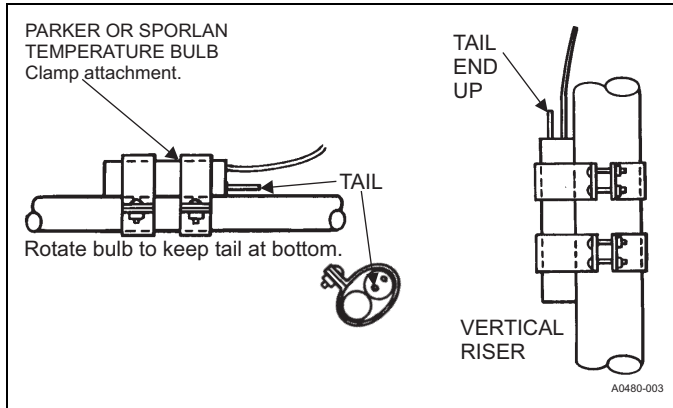
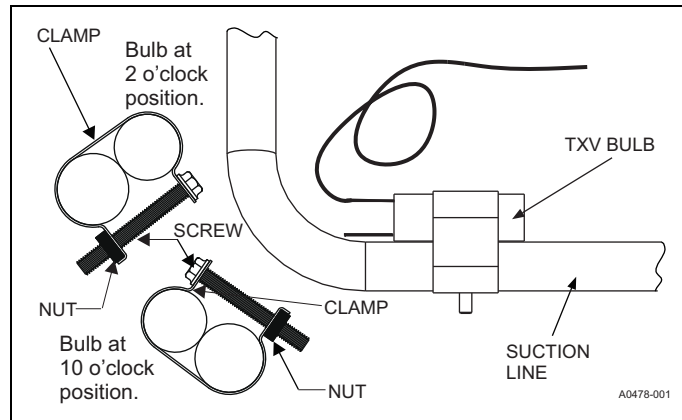

FIGURE 2: Temperature Bulb on Line Smaller than 7/8"
FIGURE 3: Temperature Bulb on 7/8" Line
8. Install the TXV bulb to the vapor line near the equalizer line, using the bulb clamp(s) furnished with the TXV assembly kit. Ensure the bulb is making maximum contact. See Figures 2, 3, and 4 for clamp assembly of the 1TVM valve temperature bulb.
- a. Install the bulb on the suction line near the equalizer line with the bulb horizontal to the suction line. On a suction line under 7/8" Outside Diameter (O.D.), install the bulb on top of the line as shown in Figure 2. On a suction line 7/8" O.D. or larger, install the bulb at about the 2 or 10 o'clock position as shown in Figures 3 or 4.
- b. If bulb installation is made on a vertical run, ensure that the bulb is a minimum of 8 inches (23.3 cm) away from elbow coming out of the coil. Position the bulb with the tail of the bulb at the top, so that the bulb acts as a reservoir as shown in Figure 2.